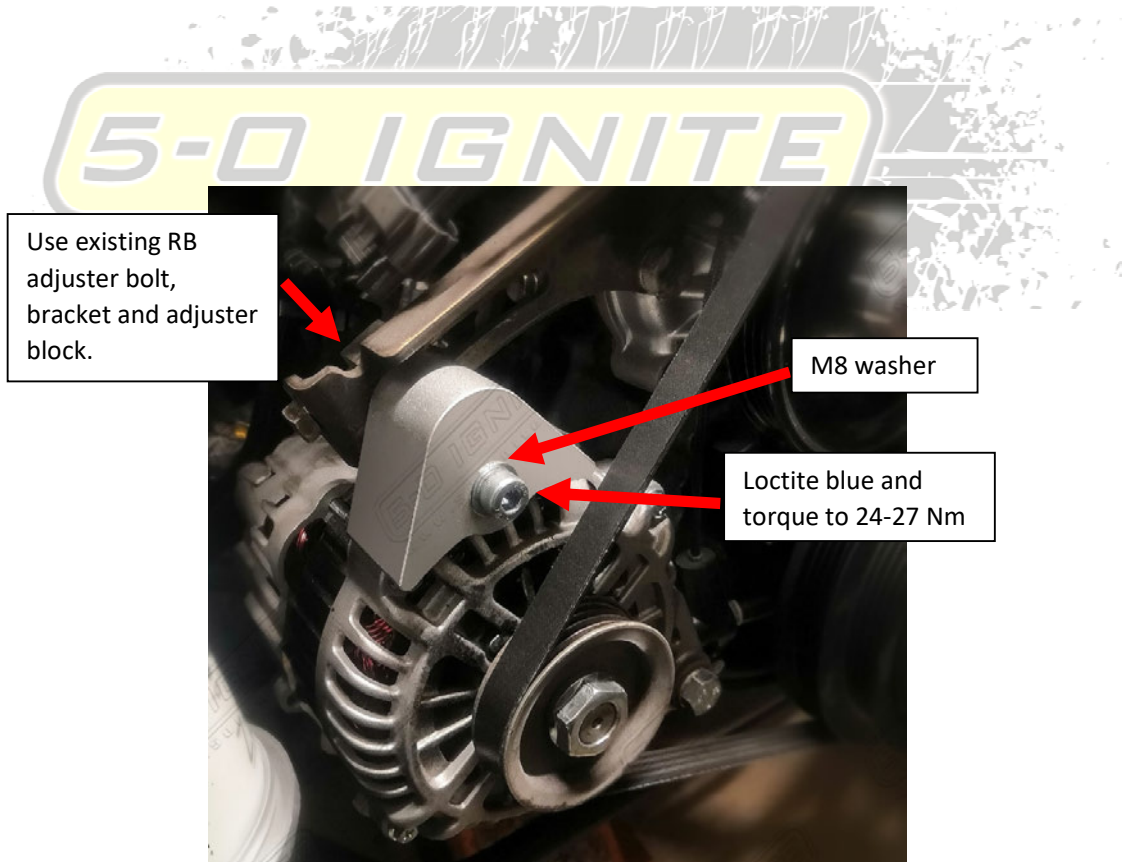

Figure 3 - Install the Alternator and the Mounting Adapter
7. Install the supplied adapter onto the Nissan Quest alternator. Loctite the bolt thread and torque to ~27Nm (figure 3). **Note: You may require to loosen the two bolts on the alternator mounting bracket to the water pump for alignment.**